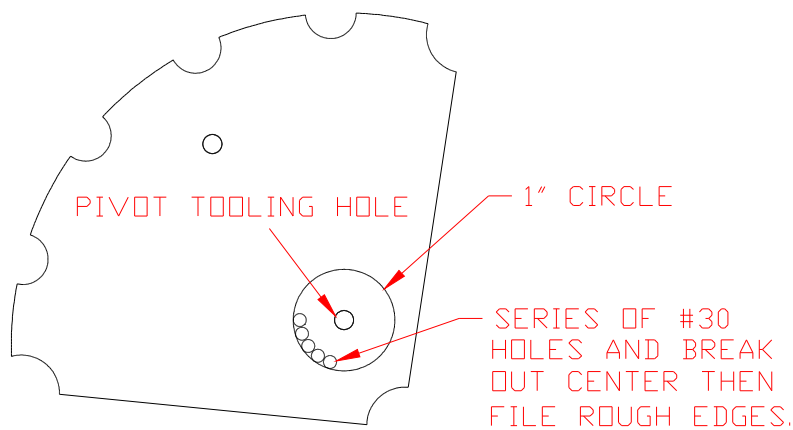

Figure 7.1.2
- 3) Prepare a Leading Edge Rib (AIL-22L) for bolt access to the Center Hinge. Cut a 1" hole centered on the pivot tooling hole in the rib in the location shown in figure 7.1.2. This can be done with a hole saw or a series of #30 holes and a half round file. This rib will be used at rib station #6.
- 4) Prepare a Leading Edge Rib (AIL-22R) for the center Bushing assembly (leading edge rib station #5). Cut a 1" hole centered on the "pivot" tooling hole in the rib. The tooling hole is in the same location as the tooling hole shown in figure 7.1.2. **NOTE:** The oversize hole in this rib will allow the Hinge Doubler/ Bushing to move around for final adjustment.